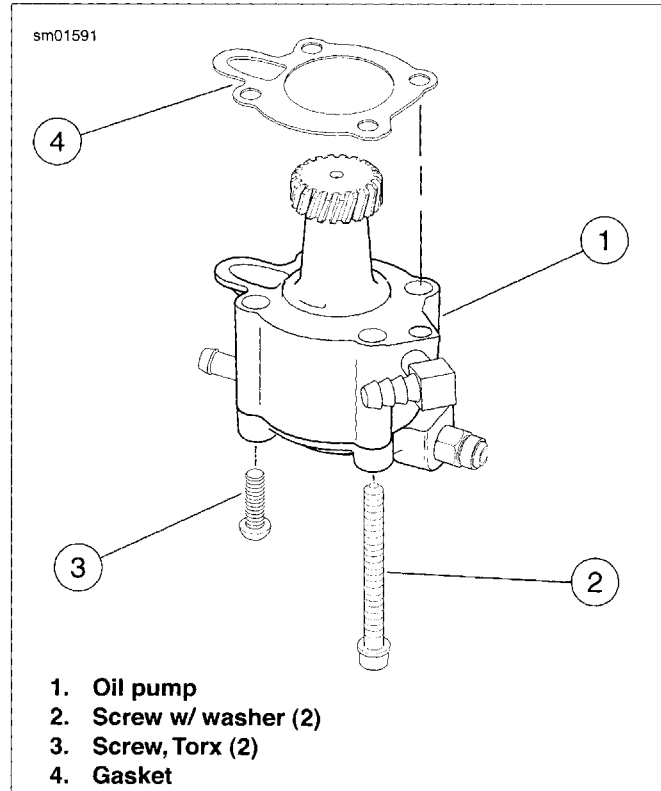

Figure 3-69. Oil Pump: XL Models
2. See Figure 3-69. Carefully remove two screws (2) that secure pump to crankcase. Pump will drop with screws removed. Discard mounting gasket.